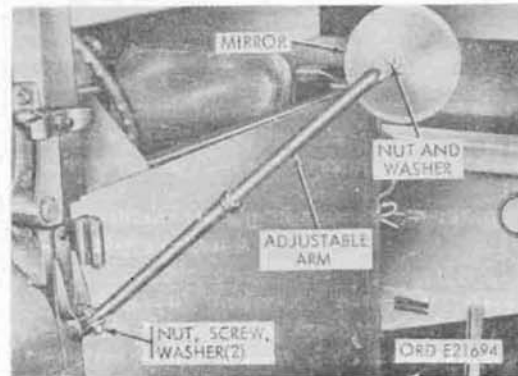

Figure 257. Rear view mirror
a. Removal. Remove the nut, washers, and screw securing the mirror adjustable arm in the bracket, and remove the arm and mirror (fig. 257). Remove the nut and washer securing the mirror on the arm, and remove the mirror.